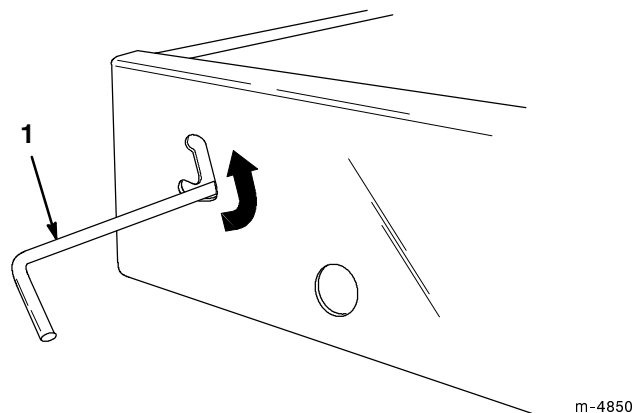

Figure 8
1. Slide latch upward toward top of cutout in bed frame (Fig. 8).